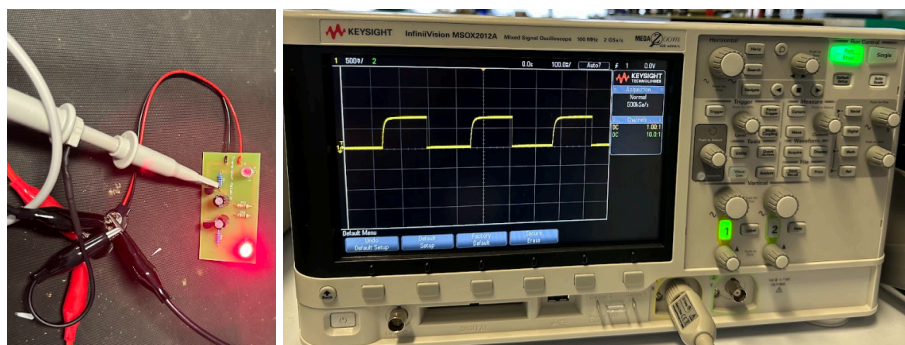

Figure 56: Voltage measurement with an Oscilloscope.
- Repeat this process to make measurements of the voltages across R1, R2, R3 and R4 by putting the multimeter croc-clips on either side of each resistor. You will see the voltage keeps changing. The measurement across the resistors can be done effectively using an oscilloscope. Use the Oscilloscope probe as shown in Figure 56 to see the changing resistor voltages.